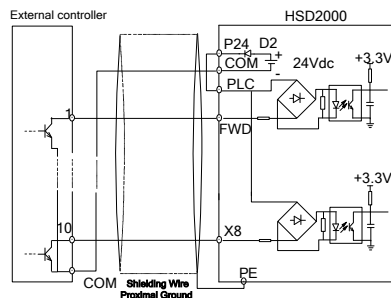

Figure 4-17: Internal +24V Power Supply Servo Drive Source Connection
1) The servo drive internal +24V power supply shall be used. The external controller connection mode is NPN common emitter output. It is shown in figure 4-17: